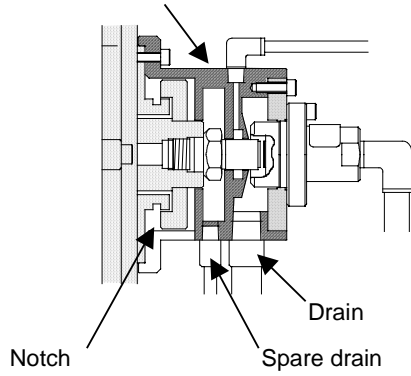

Fig. 2 Rotary joint support housing
- (3) Check items for the coolant through spindle motor α T series and α L series
- <1> Check whether coolant is always leaking out from the drains or notch of the rotary joint support housing. (See Fig. 2.)